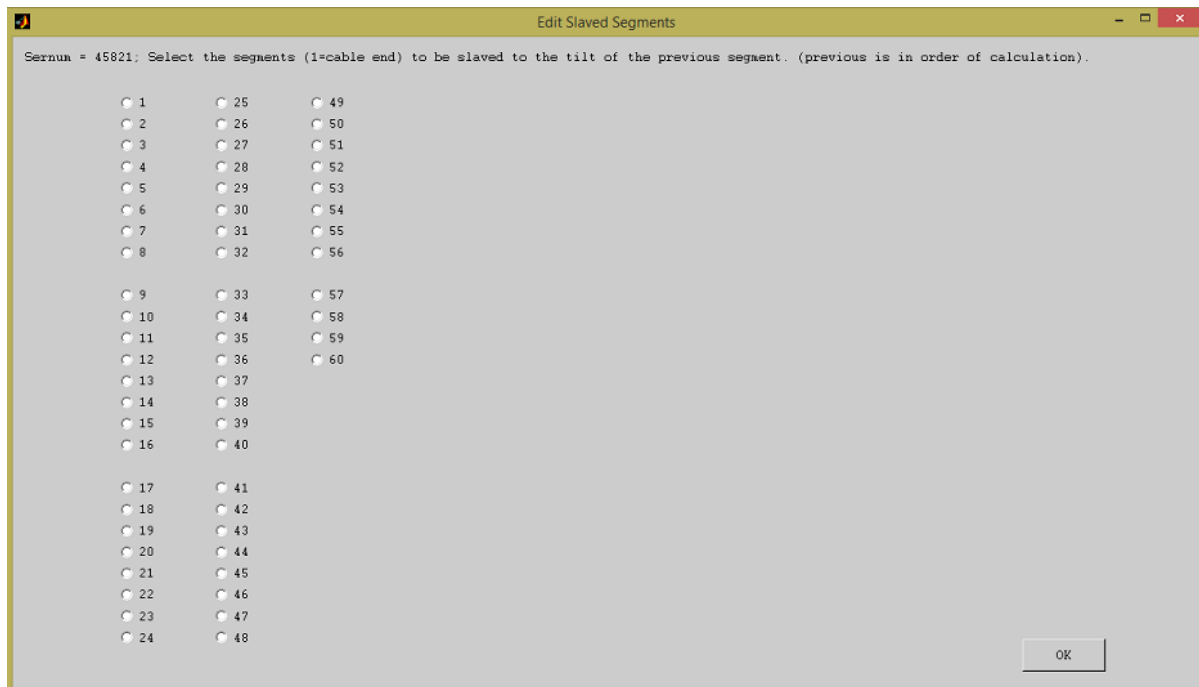

Figure 5.16: 'Editing Slaved Segments' for SAA with Serial Number 45821.
- Click to select which segments to Slave. **Figure 5.16** will appear with the SAA Serial Number and selection box for each individual segment where 1 = cable end.